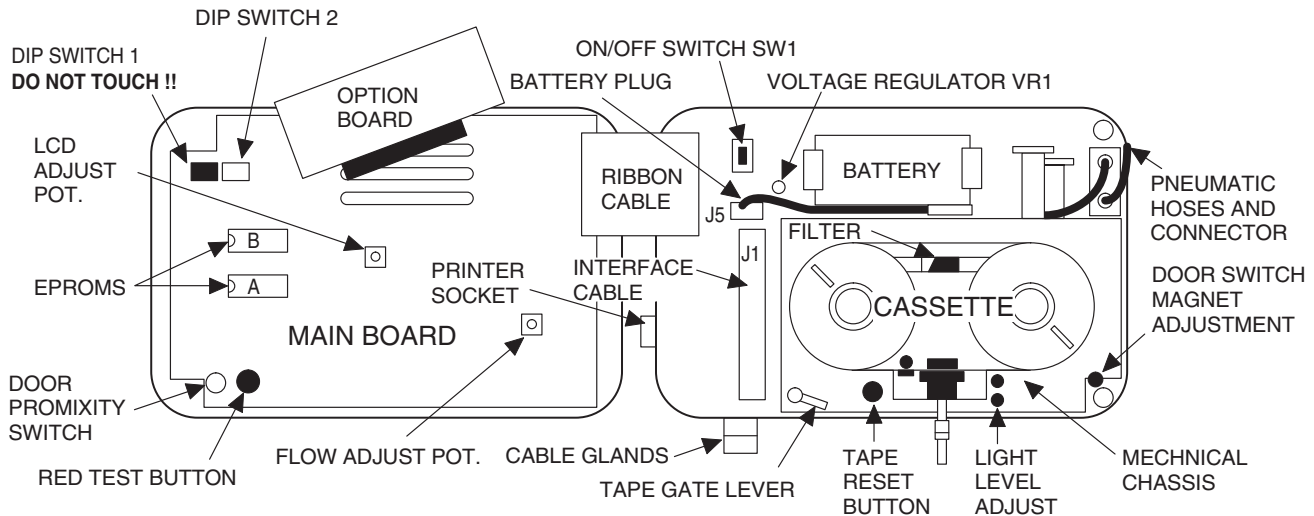

Figure 1-2. Door Open and Cover Removed from Back of Door
On the main board are mounted several potentiometers and 'dip' switches. These should not normally be touched, **particularly dip switch 1**. However, a potentiometer (POT) is provided for user adjustment of the pump flow rate. The location of the POT is shown in Figure 1-2 and an explanation of how the flow rate is adjusted is provided in Section 4.5.
1.3.4 SYSTEM POWER SWITCH SW1. RIS operation is controlled by a switch mounted on the base board. SW1 is located at the top left of the right hand unit, see Figure 1-2.
Open the RIS door with the key provided and reconnect the battery lead at J5 (see Figure 1-2).